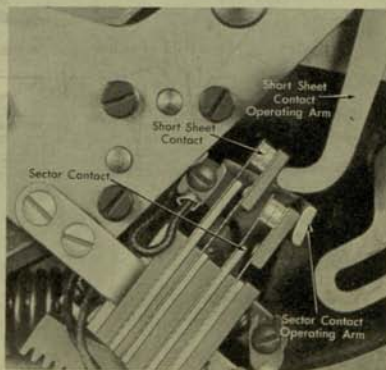

Figure 31
Set arm 3 to 1" on the scale and adjust the sector contact operating arm to close the sector contact as the sixth line space is taken (Figure 31).
8½"; it should be open when arm 3 is set to 8⅔" (Figure 31).
10. Sector Contact (Figure 31).
11. Short Sheet Contact (Figure 31).